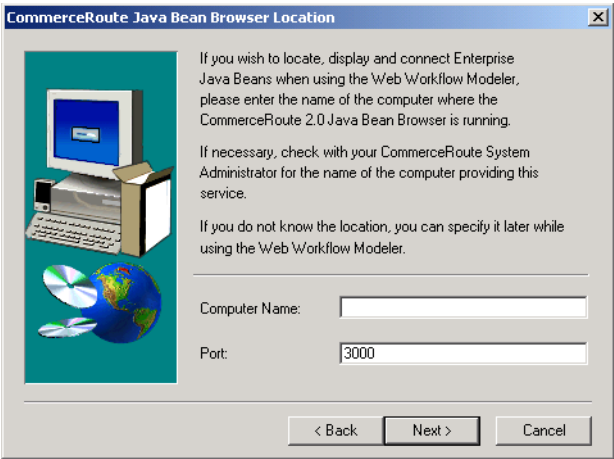

Figure 26-4. If you plan to use Enterprise Java Beans (EJB's), enter the appropriate information in this dialog screen. Otherwise, click **Next** to continue.
- ④ After confirming your installation location, you will have an option to specify an Enterprise Java Bean Server (see Figure 26-4 below). If you are not planning to use Enterprise Java Beans, you can click the **Next** button to skip this dialog and complete the installation process